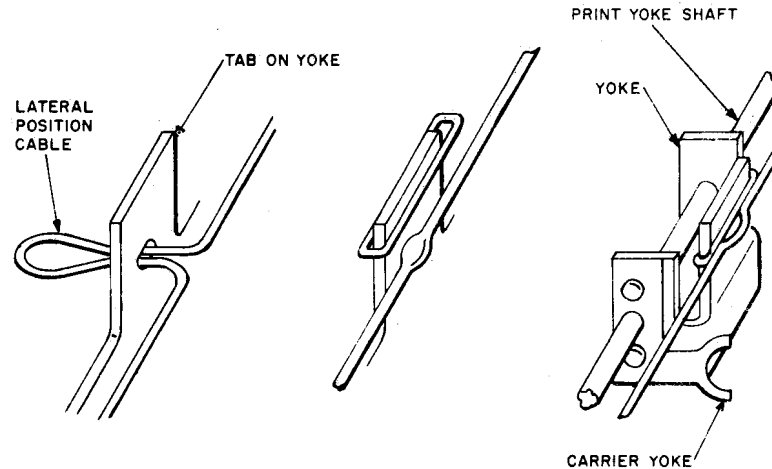

Fig. 9—Method of Attaching Lateral Position Cable to Carrier Yoke
- (1) Cut a piece of cable approximately 14 inches long, tie a knot in one end of the cable, singe the excess cable close to the knot to prevent unraveling, and thread the opposite end of the cable downward through the hole in the lateral cable adjustment screw.
- (2) Make from 3/4 to a full turn ccw (viewed from top of unit) around the lateral cable adjustment screw.
- (3) Thread the cable around the pulleys on solenoids 1, 3, and 2 successively. Continue to thread the cable around the left lateral pulley, through the cable clamp on the yoke, and around the right lateral pulley. Tie the lateral position cable to the lateral return spring so there is approximately one inch of cable between the lateral cable pulley and the end of the lateral return spring. Singe the end of the cable to prevent unraveling.
- (4) ♦On older units,♦ clamp the lateral position cable with the cable clamp on the carrier yoke by securely tightening the clamping screw. ♦On new units, attach as shown in Fig. 9.♦